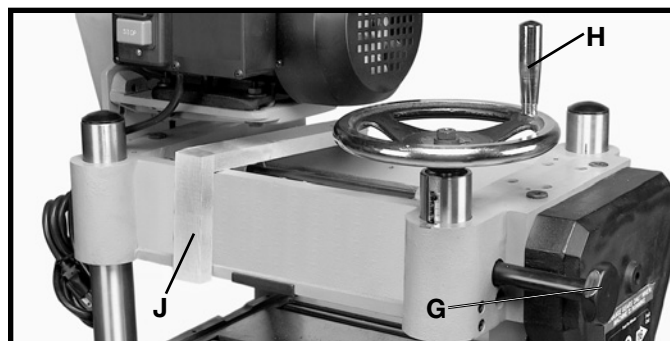

Fig. 9
6. Loosen two head locking knobs, one of which is shown at (G) Fig. 9, and turn handwheel assembly (H) clockwise to raise head assembly. Remove the protective shipping block (J).